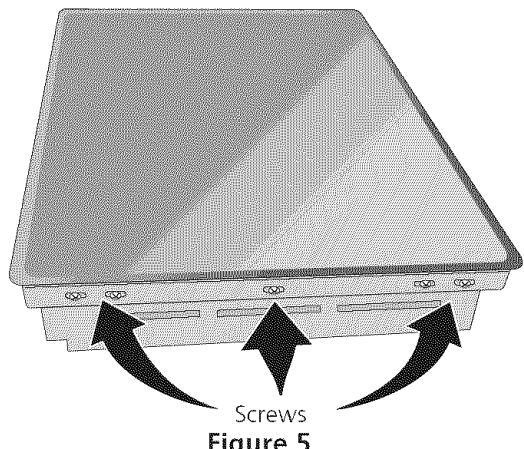

Figure 5
1. Visually inspect the cooktop for damage. Also make sure all cooktop screws are tight (see Figure 5).